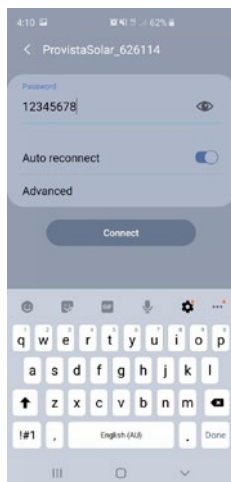

Fig. 2
2. If password is asked, insert password 12345678. Please note this may interrupt internet connection. Fig. 2